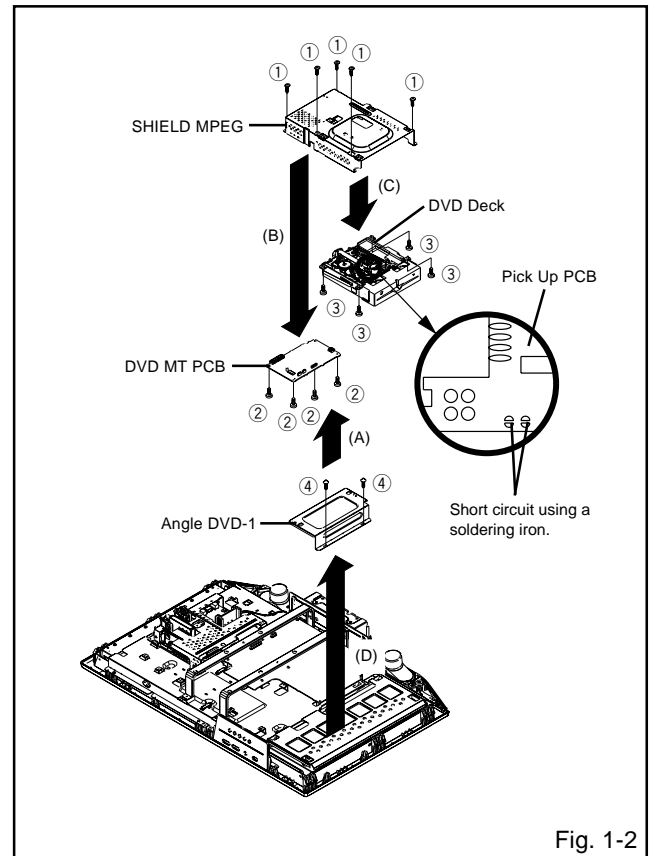

Fig. 1-2
### 1-2: DVD MT PCB/DVD DECK (Refer to Fig. 1-2)
1. Short circuit the position shown in **Fig. 1-2** using a soldering iron. If you remove the DVD Deck with no soldering, the Laser may be damaged.
3. Remove the 5 screws ①.
4. Remove the Angle DVD Ass'y in the direction of arrow (A).
5. Remove the 4 screws ②.
7. Remove the DVD MT PCB in the direction of arrow (B).
8. Remove the 4 screws ③.
9. Remove the DVD Deck in the direction of arrow (C).
10. Remove the 2 screws ④.
11. Remove the Angle DVD-1 in the direction of arrow (D).